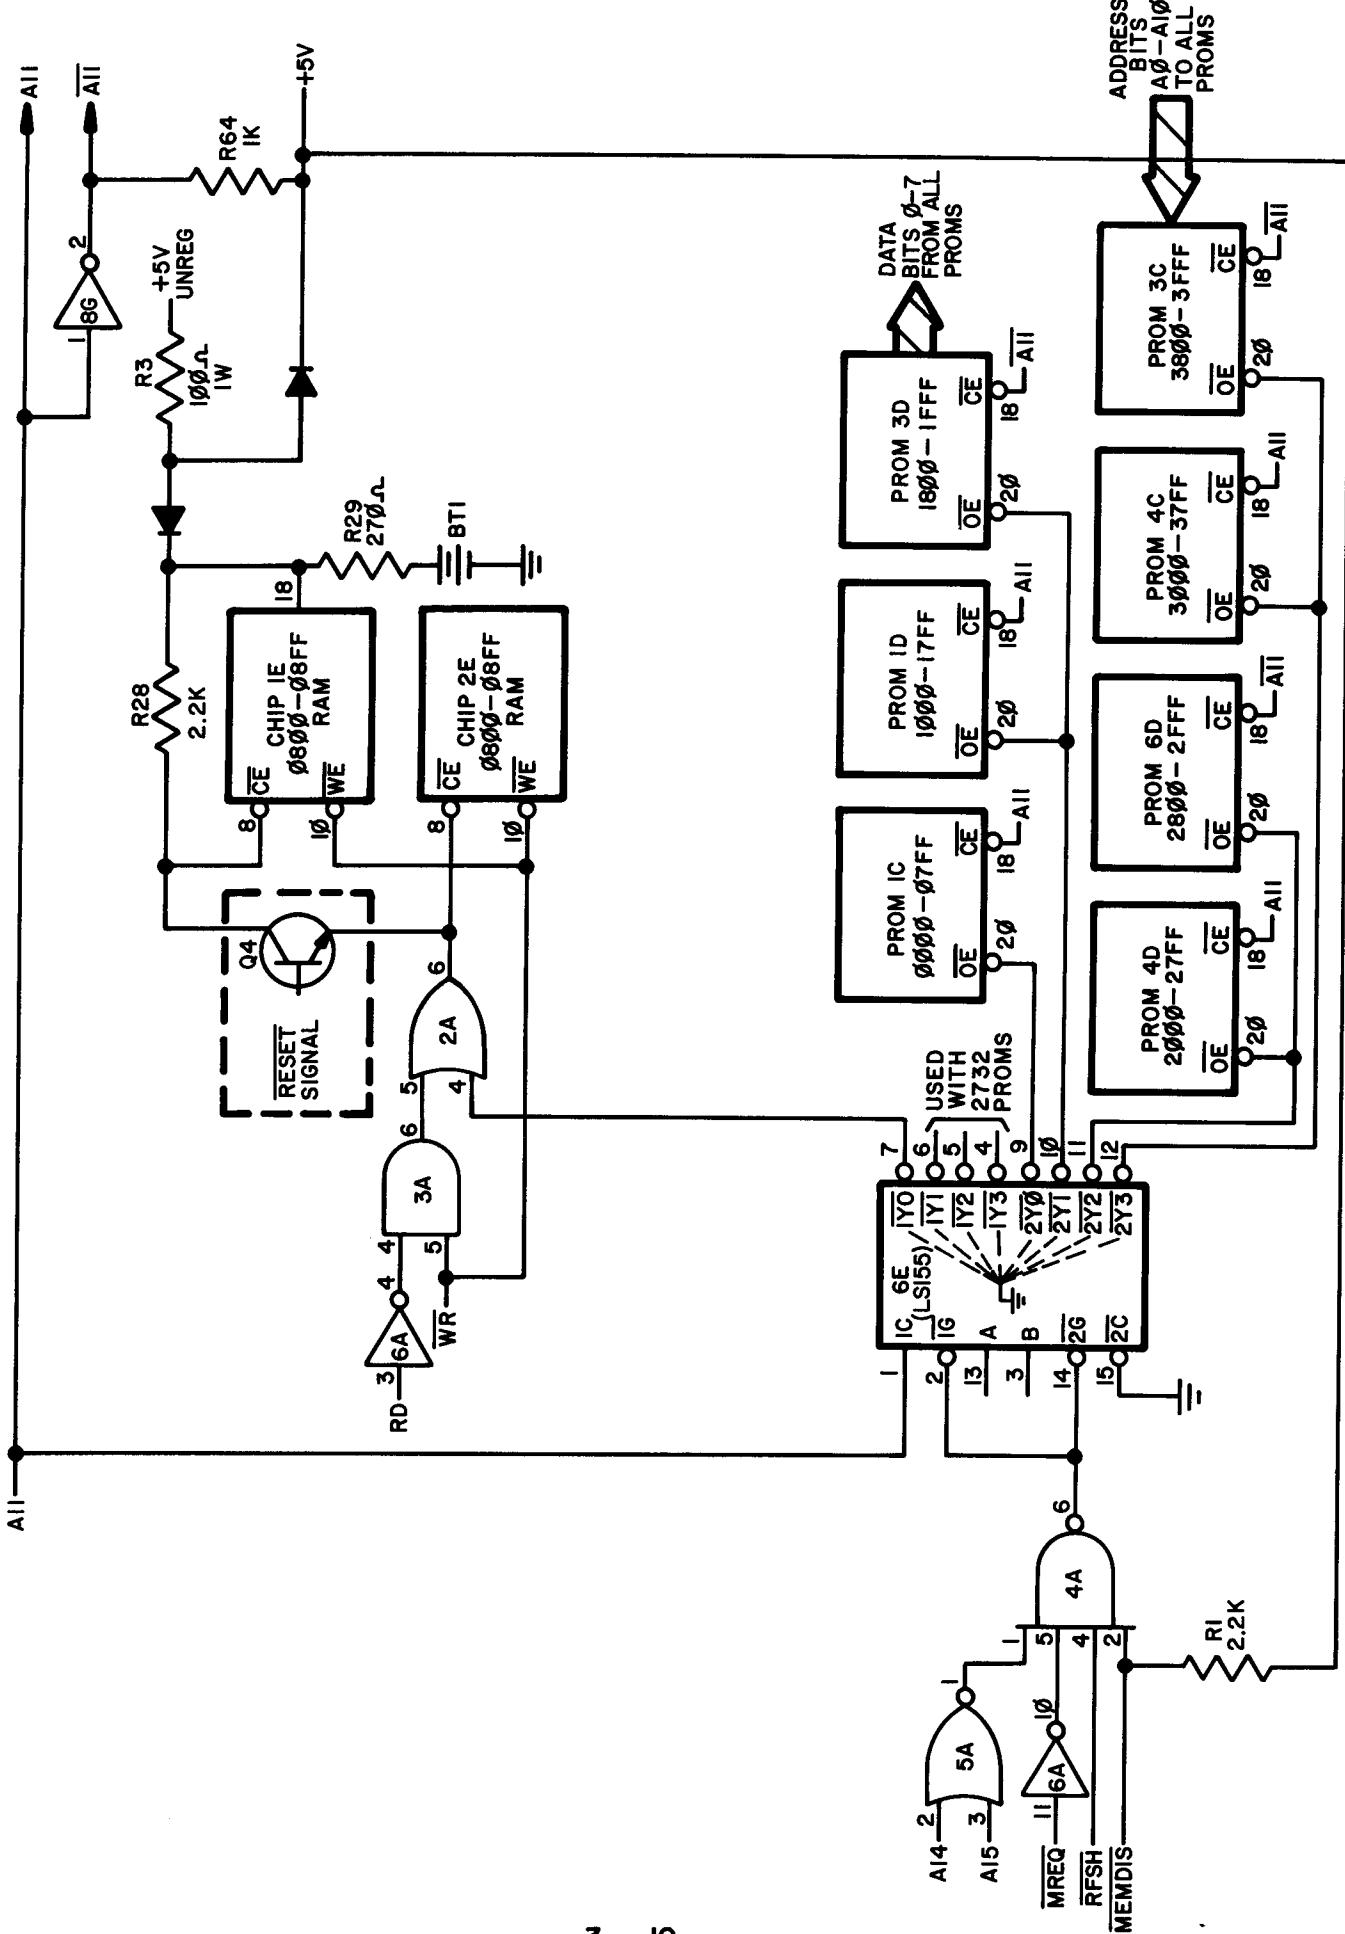

FIGURE 3-3 BLOCK DIAGRAM, DECODER 6E FOR ROM/RAM
### 3.1.1 DECODER 6E, PROMS AND OP-CODE FETCH (M1 CYCLE) (Figure 3-3)
A fetch is the first machine cycle (M1) of any instruction and is addressed by the Program Counter (PC) in the Z-80 (which is started at zero each time the RESET\* signal is received). The fetch waveform shows that the address contained in the PC is placed on the bus at the beginning of the M1 cycle. After reset, the address will be the first ROM memory location (0000). The address plus the Fetch control signals are applied to the circuits of Figure 3-3 and cause the following actions. Gating consisting of NOR gate 5A, inverter 6H and NAND gate 4A combine A14, A15, MREQ\*, RFSH\* and MEMDIS\* such that pin 6 (output) of NAND GATE 4A will go to logic level 0 when A14 = A15 = MREQ\* = 0, and RFSH\* = MEMDIS\* = 1. Under all other conditions the output of NAND gate 4A (pin 6) will be a logic 1.
Refer to Appendix A for the truth table of decoder chip 6E. The table indicates that only one output will go to logic level 0 for a specific set of binary input codes. This zero output line forms the chip select (output enable: OE\*) for the PROMs and CE\* for the scratch pad RAM via NOR gate 2A. See Figure 3-3.
### 3.1.2 DECODER 6E AND RAM CHIPS 1E/2E (Figure 3-3)